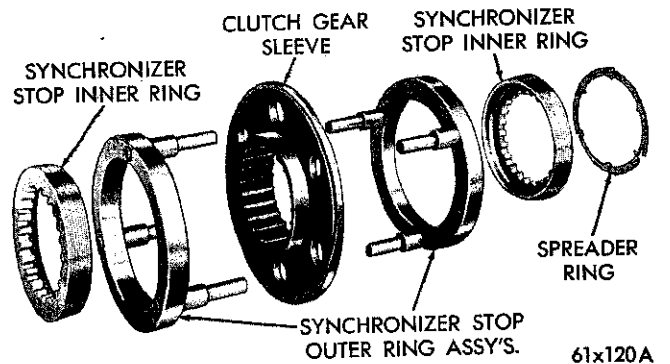

Fig. 6—Synchronizer Assembly
(1) Remove the mainshaft rear bearing snap ring from the groove in the mainshaft rear bearing bore in the case.
(2) Slide the mainshaft and rear bearing assembly to the rear, until the rear bearing is out of the case.
(3) Remove the synchronizer assembly (Fig. 6) from the mainshaft and out of the case.
(4) Remove the second and third speed shift fork.
(5) Remove the synchronizer clutch gear snap ring using Tool C-484.
(6) Remove the synchronizer clutch gear, second speed gear and first and reverse sliding gear from the mainshaft.